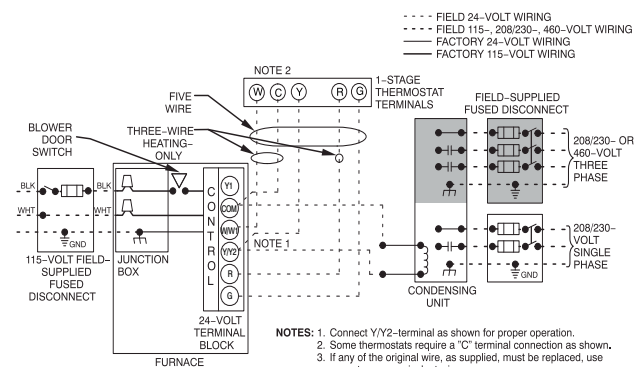

Fig. 41 – Typical Single-Stage Wiring Diagram
6. Connect power cord power and neutral leads to furnace power leads (see Fig. 41).
5. Connect field power and neutral leads to furnace power leads (see Fig. 41).